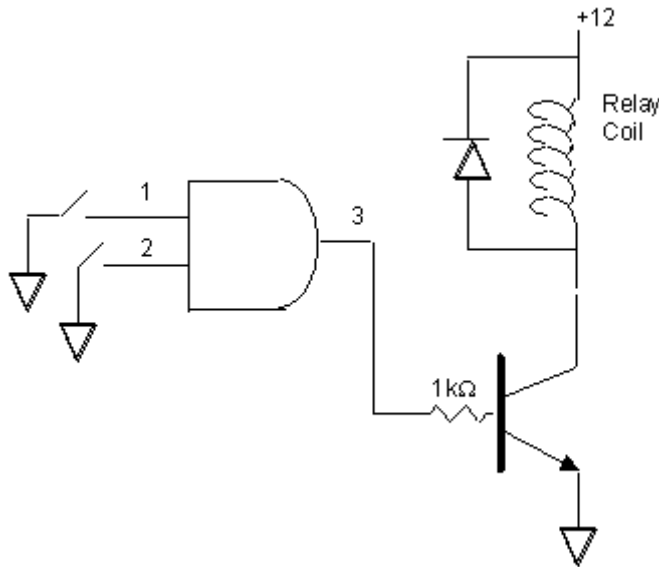

Figure 3. TTL/12 V relay interface.
3. Interface TTL logic to 120 VAC lamp. In this part of the lab, you will interface low-power solid state electronics to the "outside world" by switching the 120 VAC lamp on and off using the AND gate from the previous step. The AND gate has voltage and current levels compatible with a computer and can not directly control an appliance like a household lamp. **Q4:** Why? Hint: Think about the voltage and current requirements for a 100W lamp. You will use the electromechanical relay to control the lamp from the output of the TTL chip. However, since the relay coil requires 12 VDC and the TTL output is only 5 VDC (ON or logic 1), a transistor driver is needed. Wire up the circuit shown in Figure 3 and test it out. Keep in mind that you will need both 5 V and 12 V on your Protoboard; use the two sides of the power supply to get these two voltage levels. You also will need to have one common (ground) connection, so be sure that you connect the DC minus terminals of the two sides of the supply together, either directly or on the